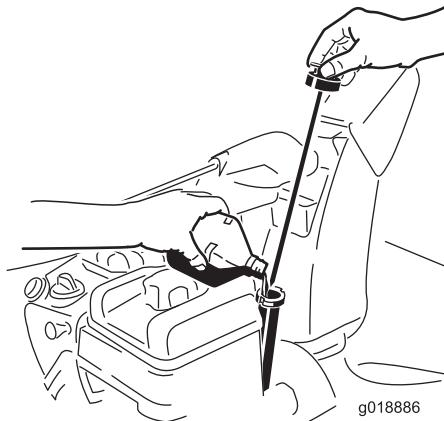

Figure 33
- Remove the dipstick and check the oil level (Figure 33). If the oil level is below the Add mark on the dipstick, add oil. Refer to Filling the Engine with Oil.